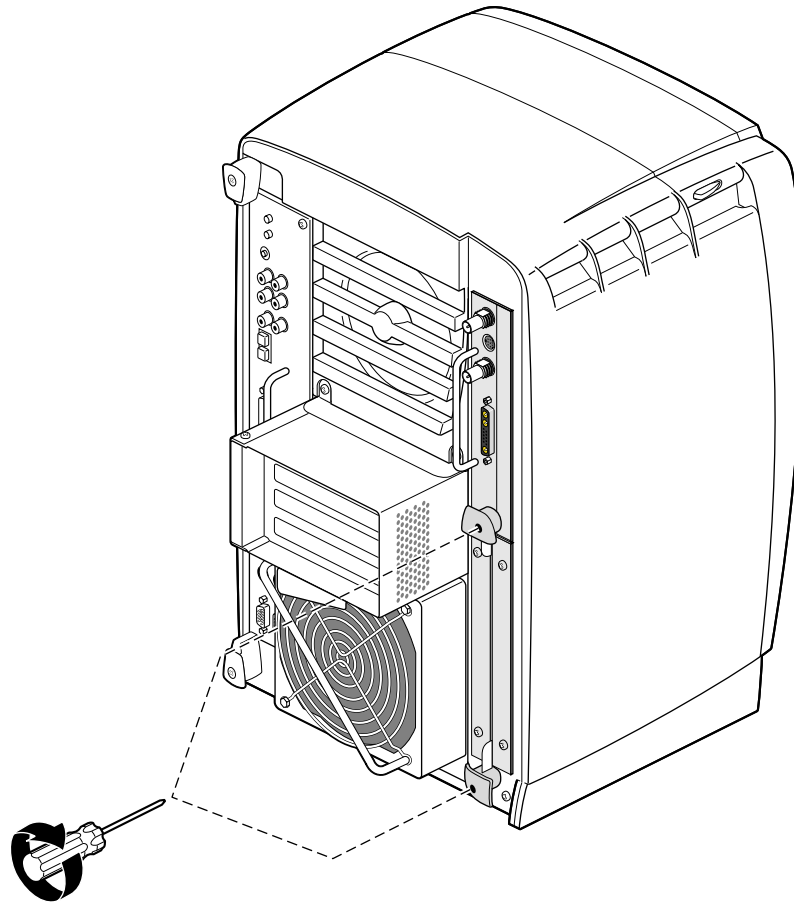

Figure 5-8 Replacing the XIO Tri-Module Screws
5. Gently tighten both captive screws in the plastic knobs, as shown in Figure 5-8. Be careful not to cross-thread these screws and do not over-tighten them.